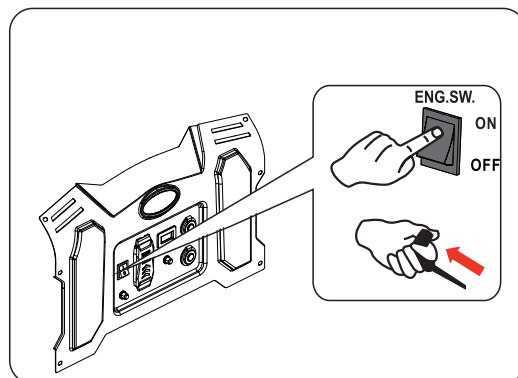

Fig 8 Recoil Start
- Turn the engine ON/OFF switch to the “ON” position. Pull the recoil handle (starter cord) slowly until resistance is felt, then pull rapidly. (See fig 8)